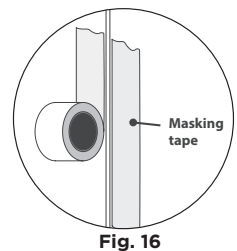

Fig. 16
- 7.2 Apply 2 inches of masking tape on each side of the joints, as close as possible from the seams without blocking the cavity. For additional scratch protection, apply a second row of tape. **(Fig. 16)**